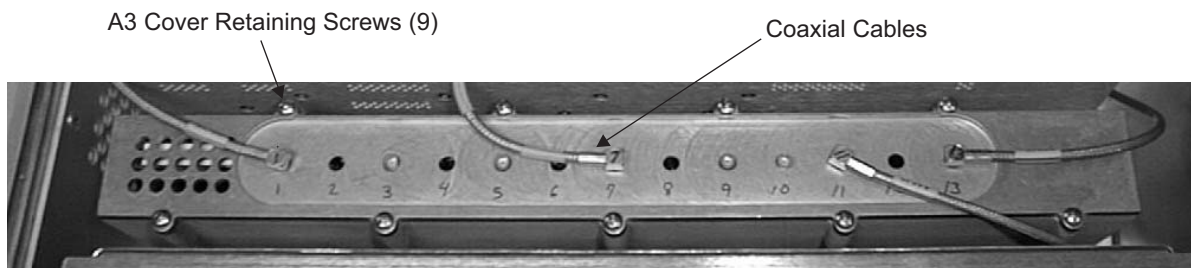
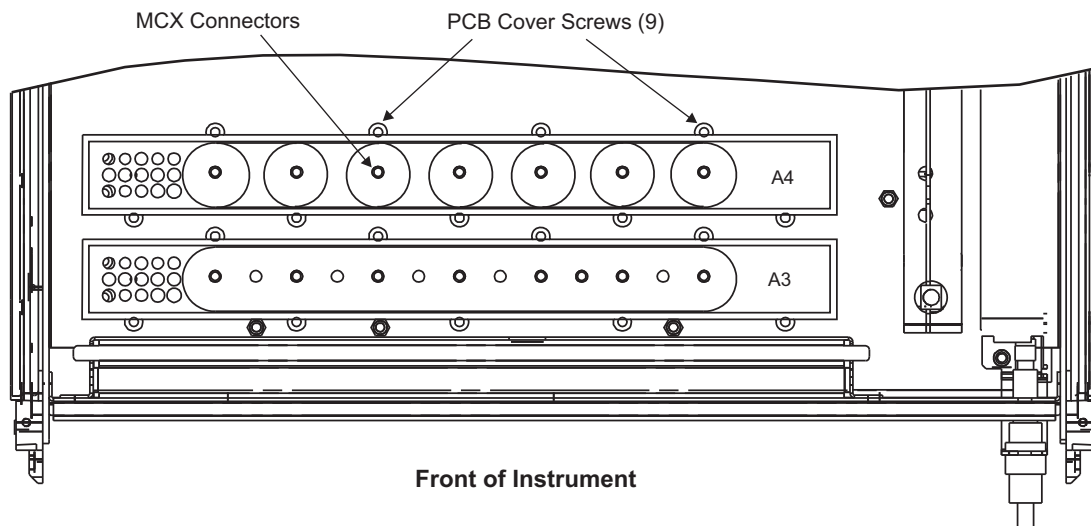

Figure 7-6. A3 Reference/Fine Loop PCB Cover Removal
Figure 7-7. A3 Reference/Fine Loop and A4 Coarse Loop PCB Assembly Removal
This paragraph provides instructions for removing and replacing the A2 microprocessor PCB which is located immediately behind the front panel in a shielded card cage. See Figure 7-6.
1. Carefully disconnect the coaxial cables from the top connectors of the A3 PCB assembly. See Figure 7-6 and Figure 7-7.
1. Carefully disconnect the coaxial cables from the top connectors of the A4 PCB assembly. Refer to Figure 7-7.